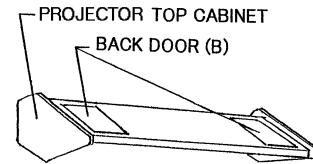

Fig. 21
1. Remove the back door (B) from the projector top cabinet (Package No. 21/23). Refer to Fig. 21.